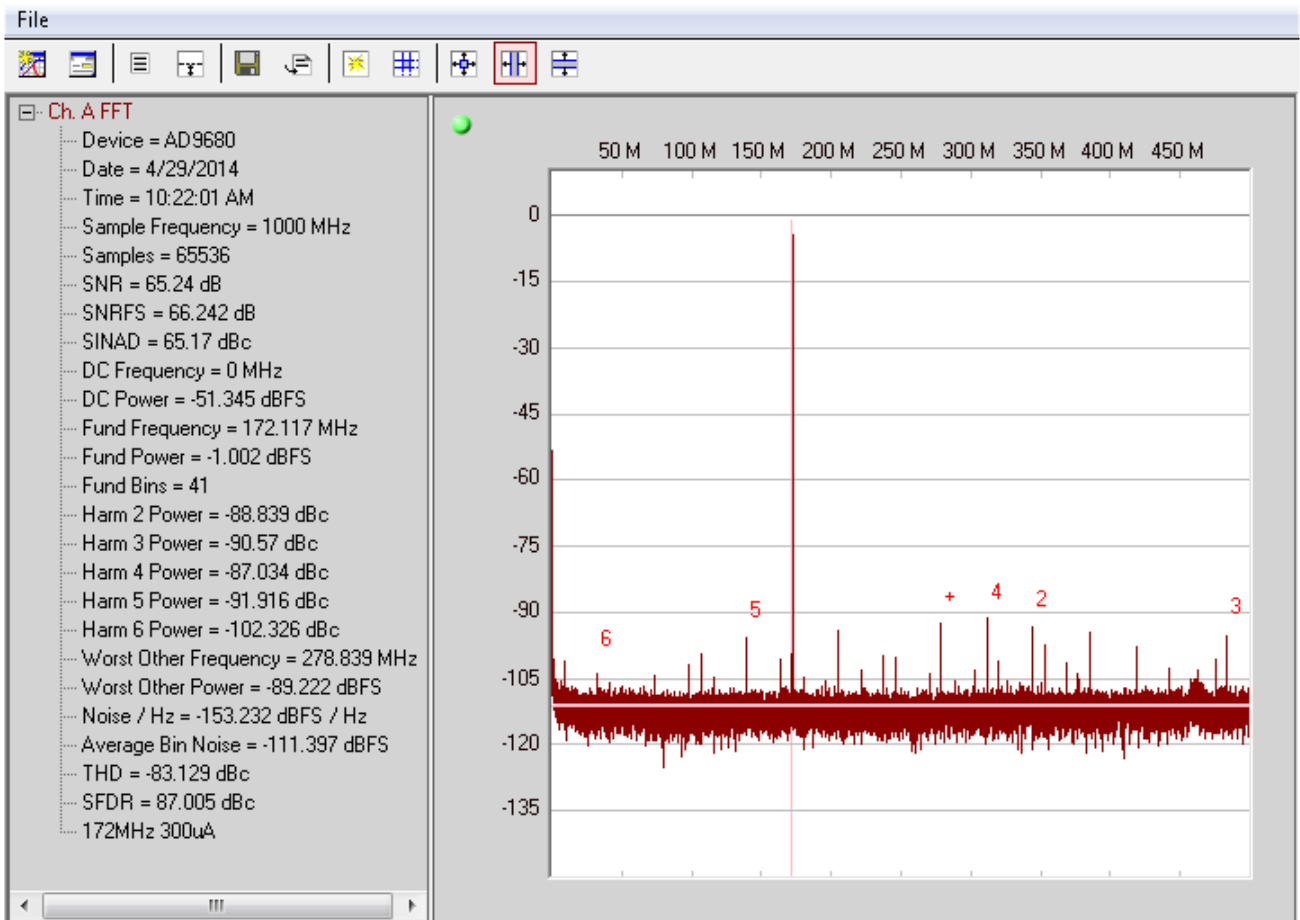

Figure 12. AD9680-1000 FFT at 170MHz Analog Input
1. Click the Run button in VisualAnalog , you should see the captured data similar to the plot shown in Figure 12.